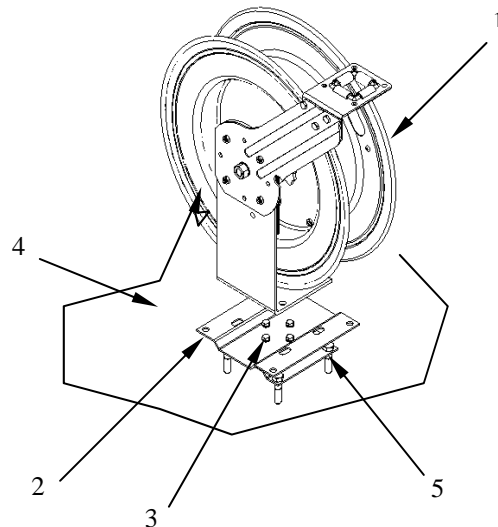

FIGURE 1
- Remove hex head bolts (item 3) and set pivot base plate aside.
- Attach mounting plate to surface using items 5.
- Reattach pivot base (item 2) using hex head bolts (item 3).
- Orient the reel assembly (item 1) so that the hose roller is in the desired position.
- While keeping the reel assembly steady, slide the top hex bolts through the reel assembly and through the pivot base as shown in Figure 1.